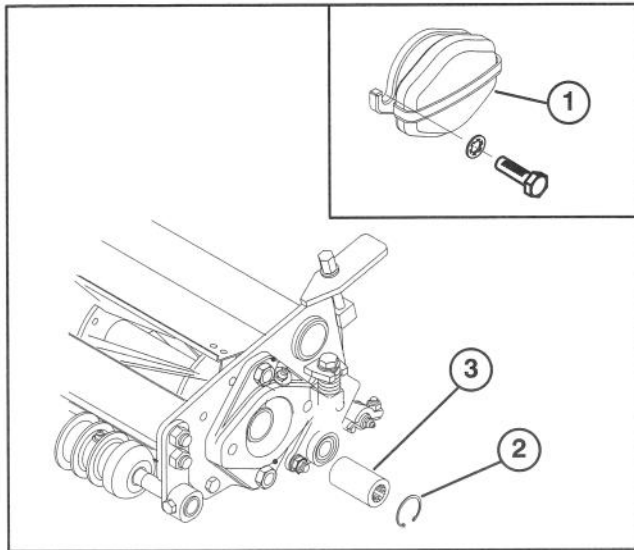

Figure 6
INSTALL CUTTING UNITS (Fig. 6–8)
A. Remove (2) capscrews and lockwashers securing counter weight to left end of cutting unit. Remove counter weight (Fig. 6, inset).